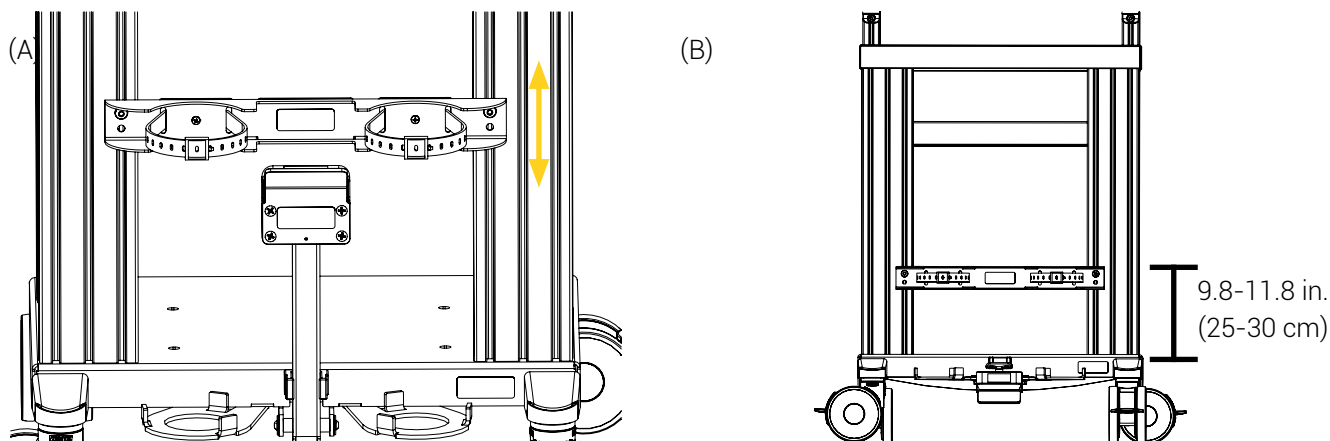

Figure 15: Height adjustment of the top plate of the gas cylinder mounting bracket
6. Depending on the type of cylinder, glide the top plate of the mounting bracket up or down the vertical rail at a height of 9.8 in. to 11.8 in. (25-30 cm) from the UPS shelf, then tighten the four (4) screws using an Allen key 3/16 in. (Figure 15).